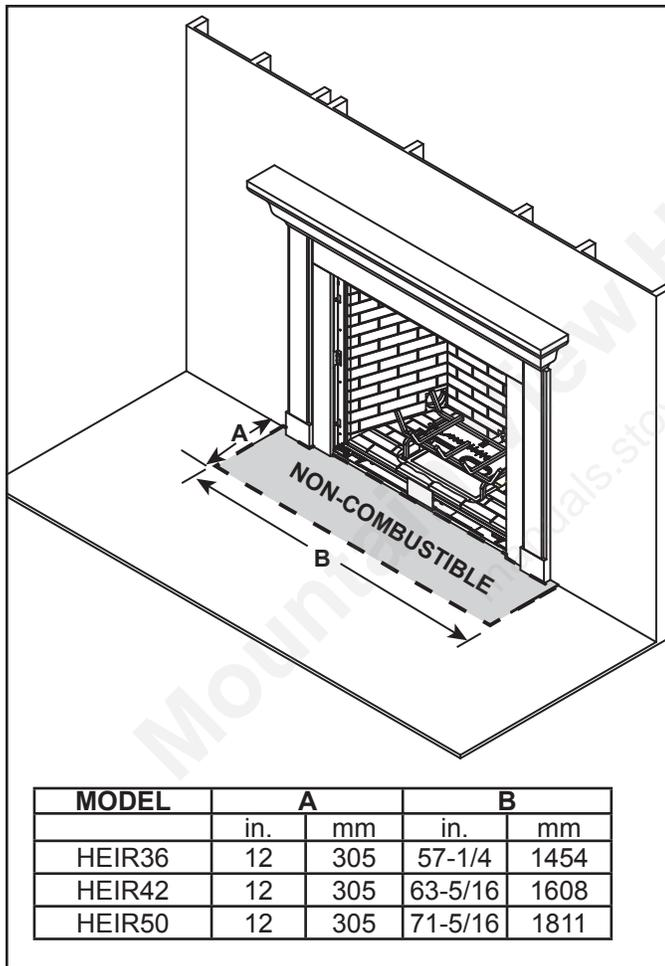
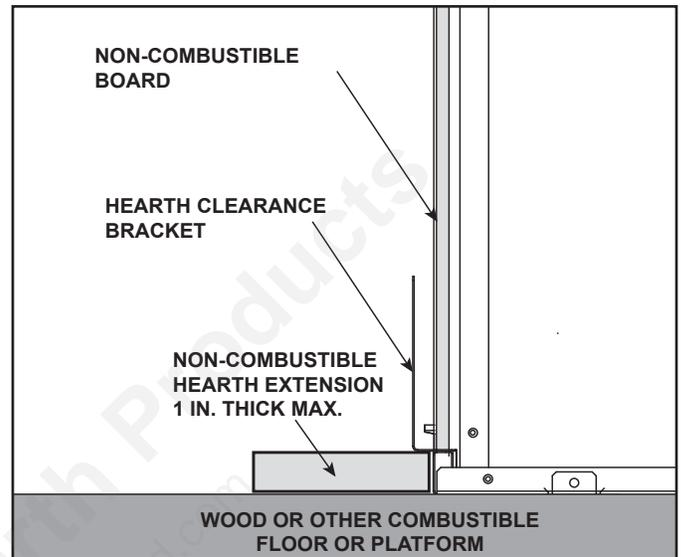
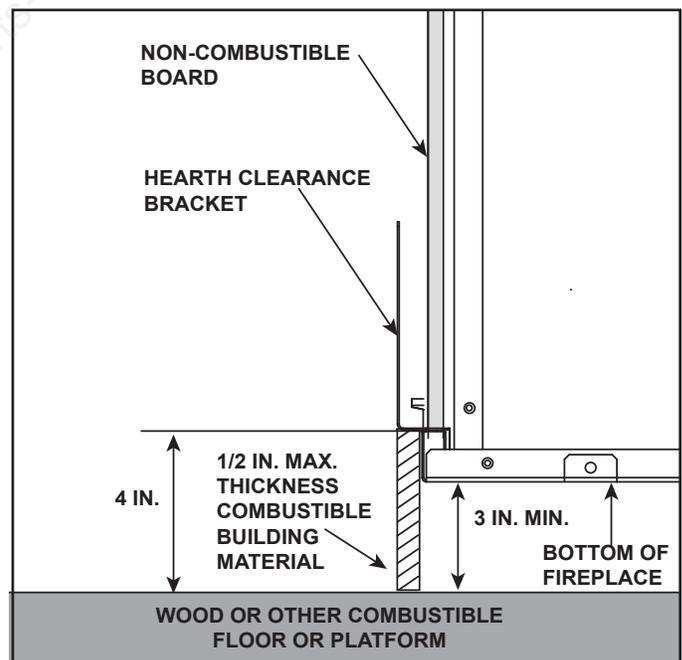

Figure 3.10 Non-Combustible Hearth Extension Dimensions
Figure 3.11 Appliance Installed on Combustible Surface Non-Combustible Hearth Extension REQUIRED.
Figure 3.12 Appliance Raised a Minimum of 3 Inches Above Combustible Surface. Non-Combustible Hearth Extension NOT REQUIRED.
- Hearth extension must be non-combustible and serves to protect combustible floors in front of appliance. See Figure 3.10 and Figure 3.11.
- The base of the fireplace may sit on a combustible surface. See Figure 3.11. The area in front of the appliance must be protected by a non-combustible hearth extension, unless the appliance is raised a minimum of three inches above the combustible floor or hearth. See Figure 3.11 and Figure 3.12.
- If a hearth greater than one inch in thickness is desired, the appliance must be raised by the equivalent height to ensure that the hearth extension does not interfere with the installation of the glass assembly required for fireplace operation. See Figure 3.11.